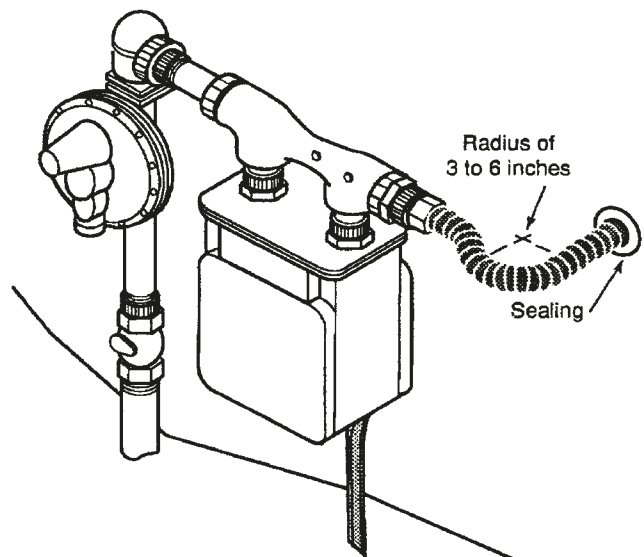

Figure: 4-13
2. Meters which are independently supported with a bracket can be directly connected outdoors with **TracPipe**®. (See Figure: 4-13). If practical, direct connections shall include a 3 to 6 inch additional length of tubing to accommodate differential settling and meter movement. No mechanical protection of the tubing is required for outdoor connections. PRIOR TO INSTALLING **TRACPIPE**® DIRECTLY TO A METER, ENSURE THAT THE LOCAL UTILITY ALLOWS THIS PRACTICE as some utilities have regulations specifying meter attachments. Any exposed sections of stainless steel piping must be wrapped with a silicone self-bonding tape. This is especially important with masonry construction. (See Figure: 4-12). A PVC sleeve is required for **TracPipe**® penetration of masonry and recommended for wood frame construction.